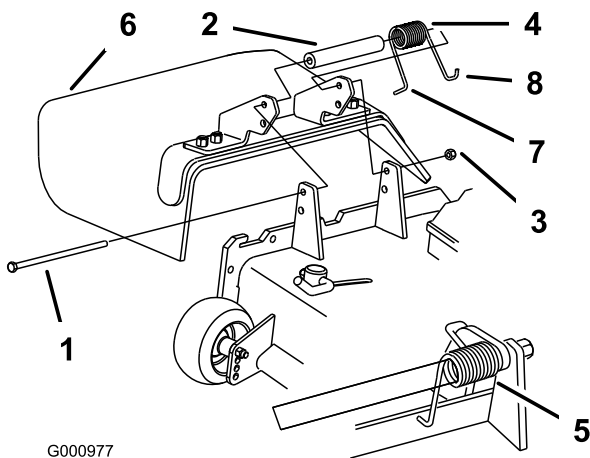

Figure 95
1. Remove the locknut, bolt, spring and spacer holding the deflector to the pivot brackets (Figure 95). Remove the damaged or worn grass deflector.
**Note:** Make sure the **L** end of the spring is installed behind the deck edge before installing the bolt as shown in Figure 95.
3. Install the bolt and nut. Place the **J** hook end of the spring around the grass deflector (Figure 95).